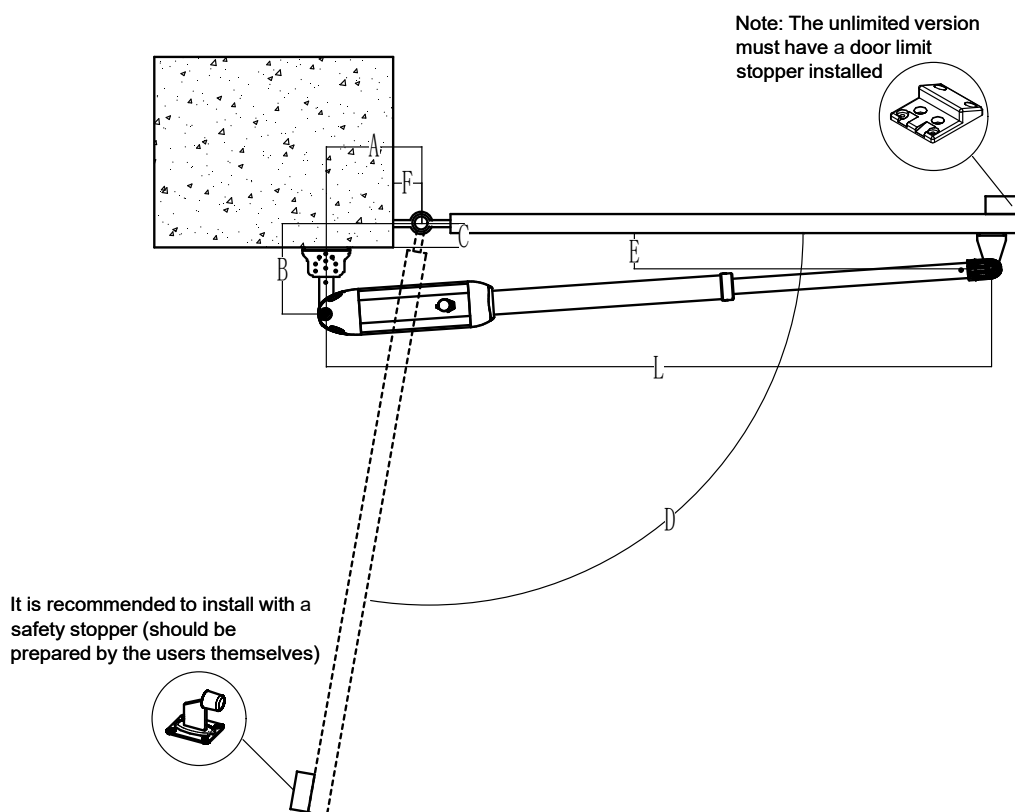
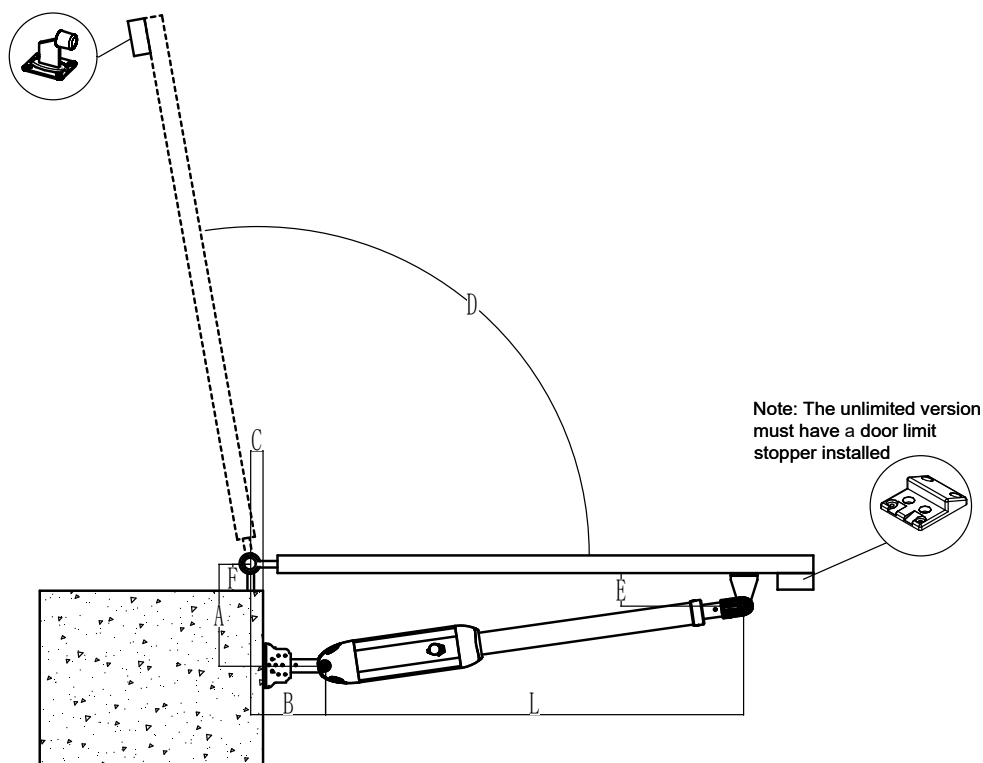

Figure 8
Figure 9
- **To ensure safety and protect the machines, please install a gate stopper at the open limit position when the door opens outward to prevent the gate from running over its travel. Meanwhile, to enable the 2 swings to close to its accurate limit position, please install a limit stopper at the close limit position (as shown in figure 9). Similarly, when the door opens inward, please install a limit stopper at the close limit position (as shown in figure 8).**